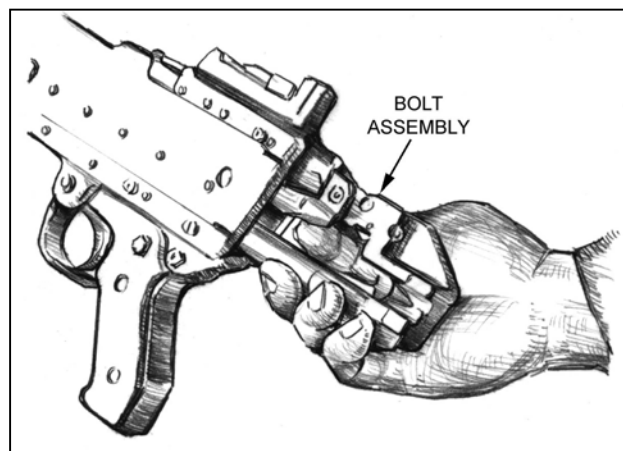

Figure 3-14. Bolt assembly.
c. **Remove the Bolt and Operating Rod Assembly.** Pull the cocking handle to the rear to start the rearward movement of the bolt and operating rod assembly inside of the receiver. With the index finger, reach inside the top of the receiver and push rearward on the face of the bolt until the bolt and operating rod assembly are exposed at the rear of the receiver. Grasp the bolt and operating rod and remove them from the rear of the receiver. Return the cocking handle to the forward position (Figure. 3-14).